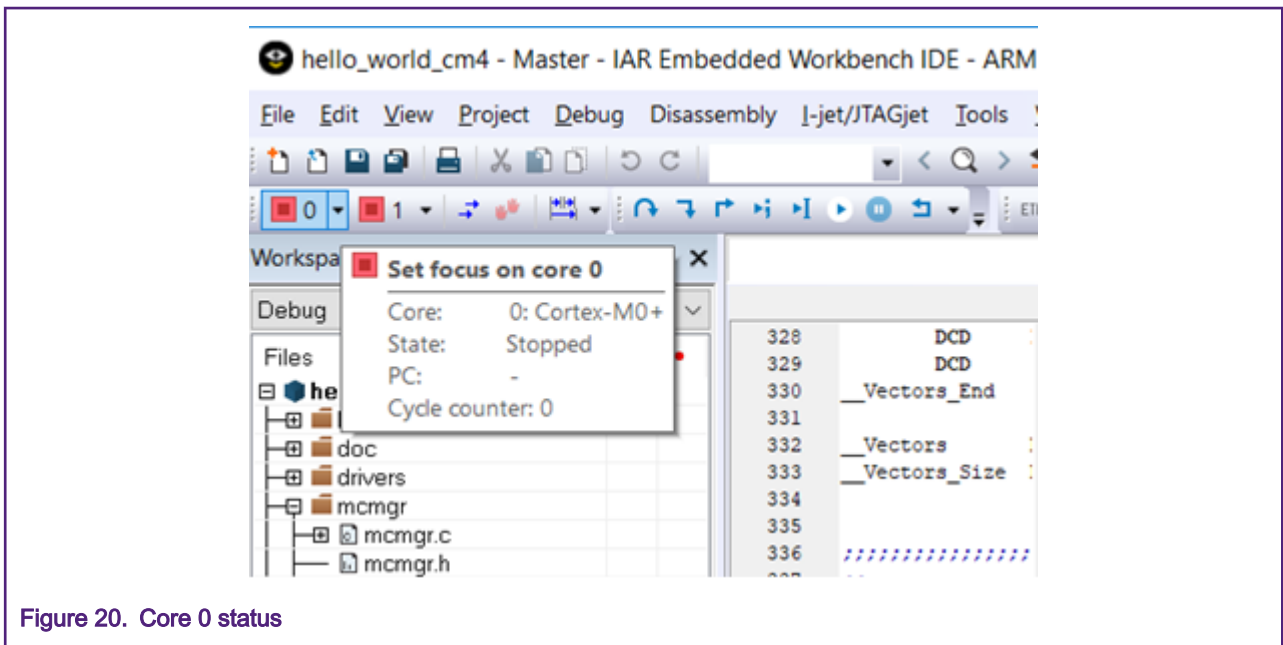
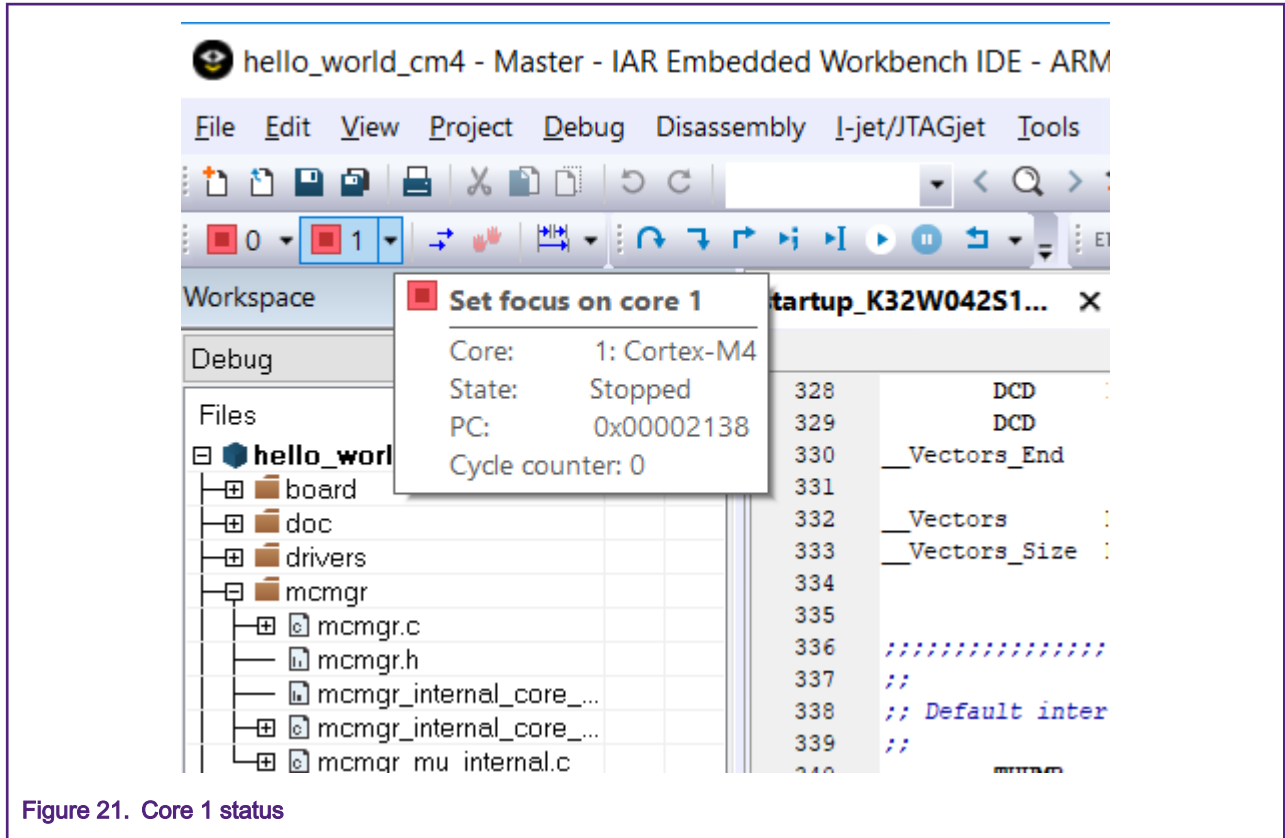

Figure 20. Core 0 status
Figure 21. Core 1 status
4. If you mouse over the Core 0 or Core 1 status and control icons, an informational text box will give details of the core. Figure 20 and Figure 21 display an example.